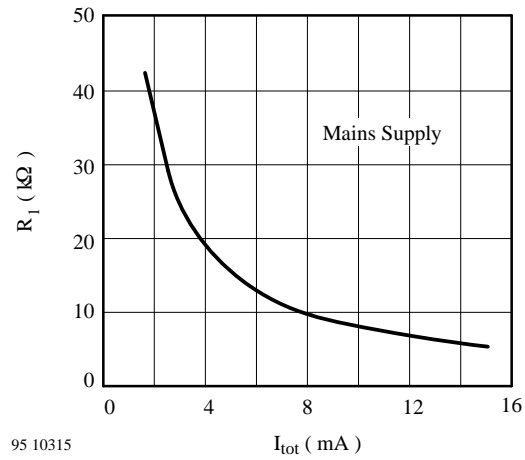

Figure 16.
- R_1 can be easily evaluated from diagram figure 16 and 17